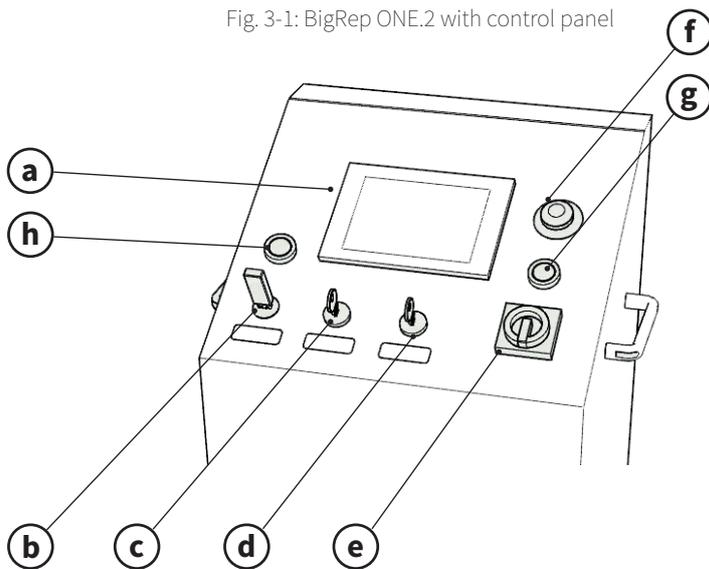

Fig. 3-2: Control panel
- (D) **Filament roll holder (2 rolls)**
- (E) **Z-guide shafts (4 pieces)**
- (F) **Z-lead spindles (4 pieces)**
- (G) **X-guide rails (2 pieces, one above the other)**
- (H) **Y-guide rails (2 pieces, opposite sides)**
Control panel (A) (Fig. 3.2)